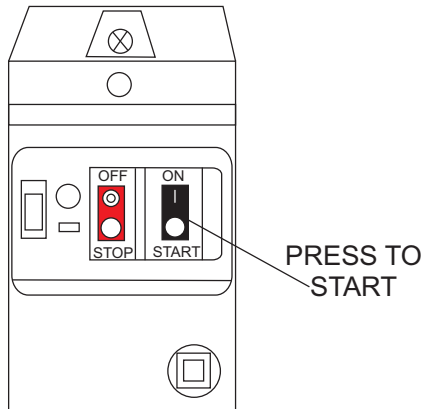

Figure 22. Electric Motor On/OFF Switch (Start)
- To start the electric motor, press the black ON/START switch (Figure 22).